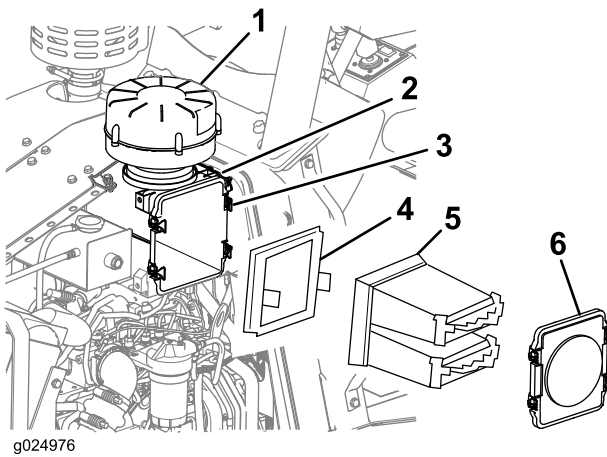

Figure 70
2. Unlatch the 4 latches that hold the air-cleaner cover and remove the cover (Figure 70).
3. Remove the primary and secondary air-cleaner elements from the air-cleaner housing (Figure 70).
4. Use a clean damp cloth to clean the inside of the cleaner housing (Figure 70).
10. Secure the air-cleaner cover to the air-cleaner housing with the 4 latches on the housing (Figure 70).